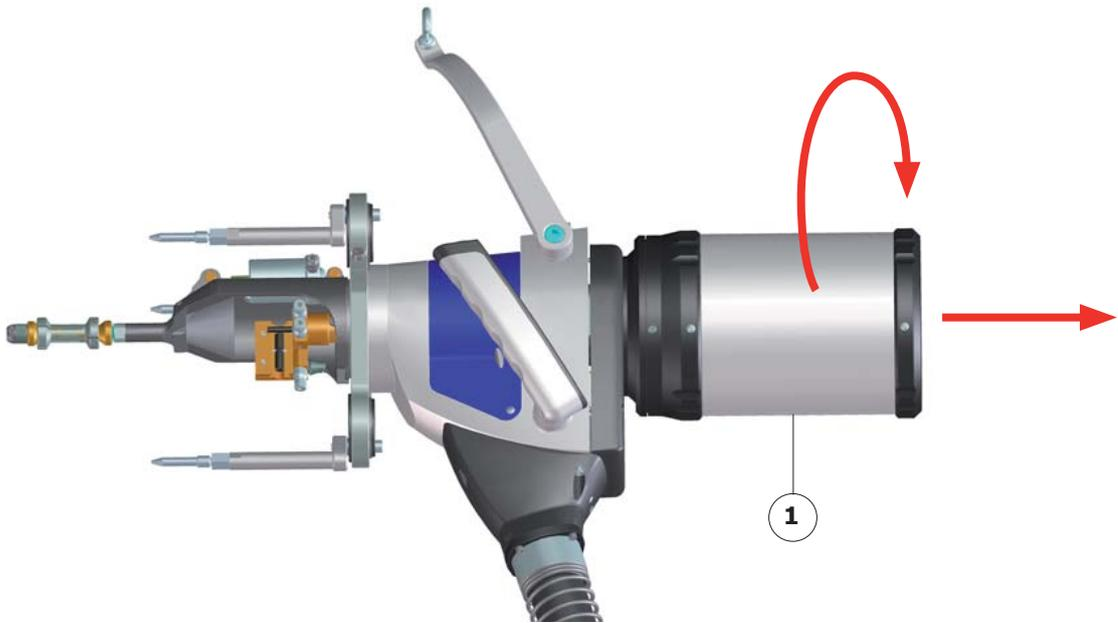

Fig.5.14 - Accessing the spool of the rotating wire feeder
- Turn the removable housing (Fig.5.14 - 1) and remove it to access the spool holder.